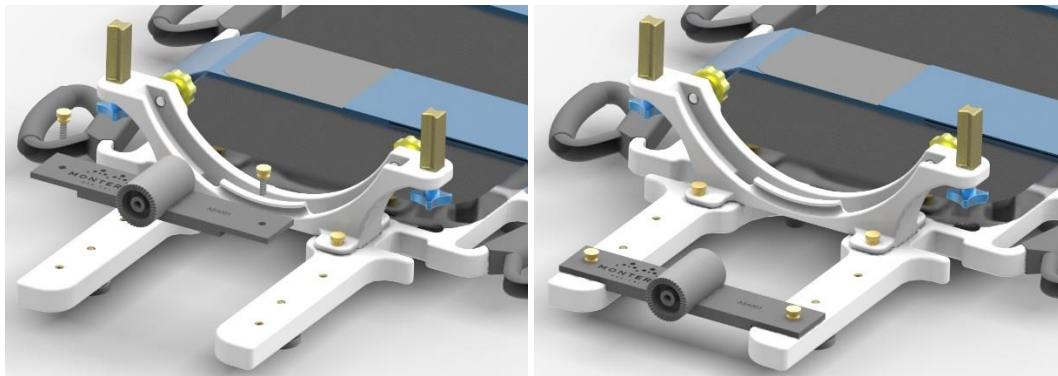

Figure 13. Attach the Starburst Adapter to the Patient Board
1. Attach the Starburst Adapter to the forked head end side of the Patient Board using the two Knurled Head Thumb Screws threaded into the top screw receptacles located on each fork of the Patient Board (Figure 13).